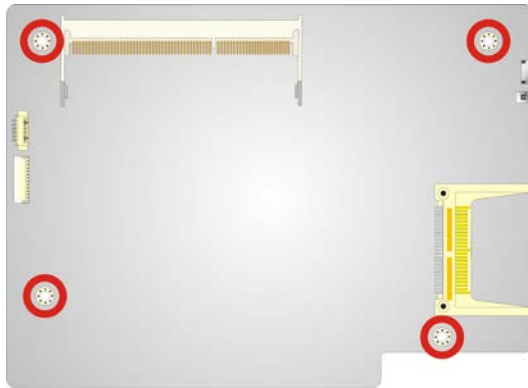

Figure 3-7: Retention Screws on the Motherboard
Step 5: Release the motherboard from the side cover by removing the four retention screws (**Figure 3-7**) on the solder side of the motherboard.